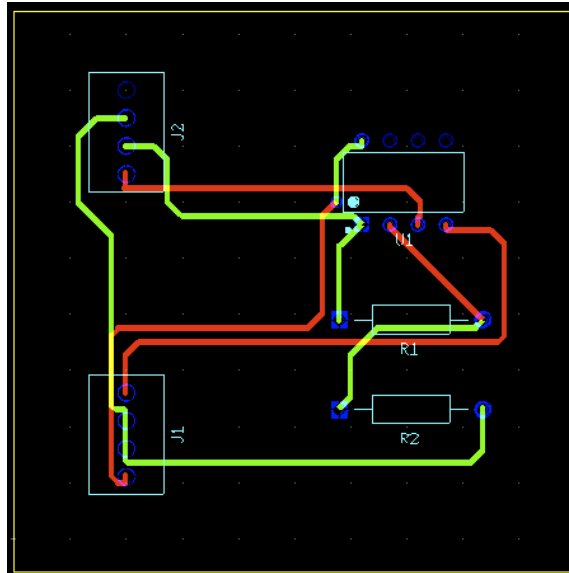

Figure 17. Routed board.
11. Finish placing traces for the rest of the connections. Your board should look like Figure 17.